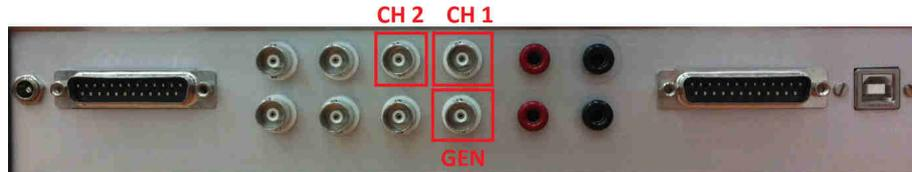

Fig.16. Back side of a measurement panel
1) Make sure that the BNC connectors are plugged in the sockets of the measurement panel according to the scheme presented in Fig. 16.